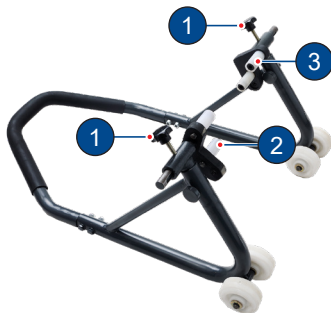

Fig. 91
- Loosen the clamping screws (1) of the stand adopters (**ref. Fig. 91**).
- Tighten the clamping screws (1) (**ref. Fig. 91**).